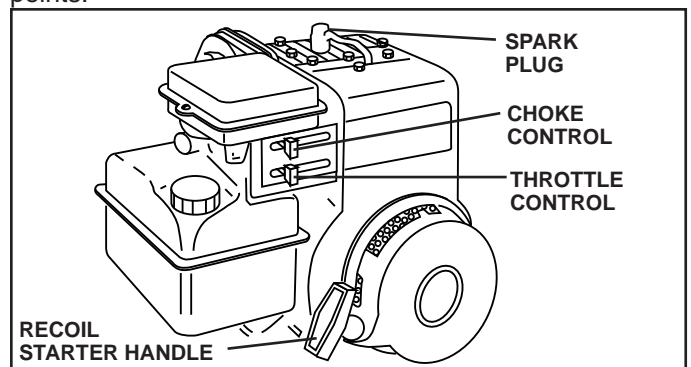

Fig. 8
## TO START ENGINE (See Fig. 8)
- You will find tilling much easier if you leave a row untilled between passes. Then go back between tilled rows. (See Fig. 8) There are two reasons for doing this. First, wide turns are much easier to negotiate than about-faces. Second, the tiller won't be pulling itself, and you, toward the row next to it.